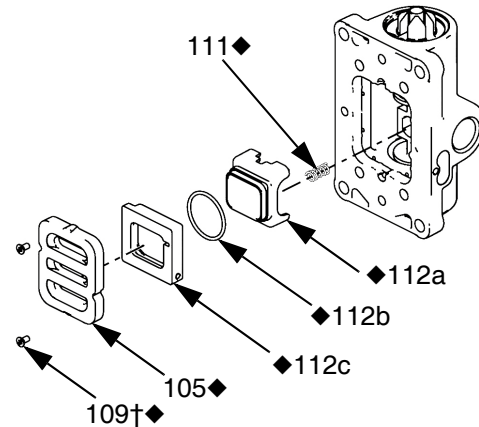

FIG. 3: Air plate removal
2. See FIG. 3. Use a 2 mm or 5/64 hex key to remove two screws (109†♦). Remove the valve plate (105♦).